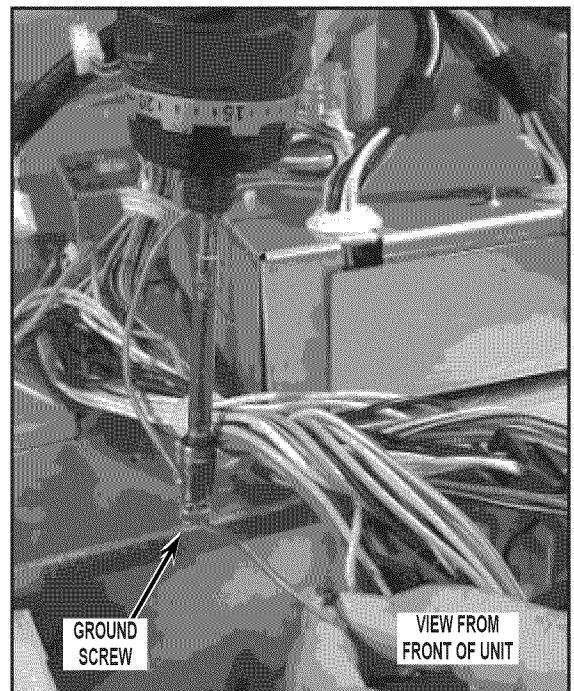

FIGURE 11
13. Reconnect ground from HV assembly together with system ground into cabinet as shown in *Figure 11*.